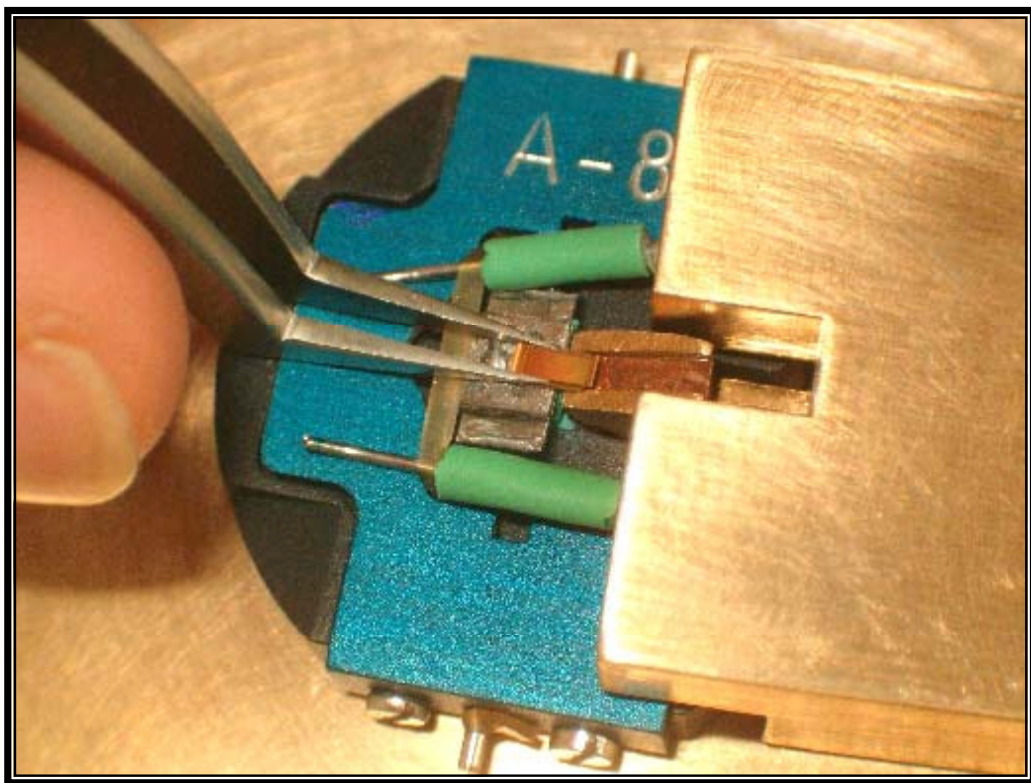

Fig. 2.20: Inserting the cantilever chip.
4. Using the tweezers, slide a cantilever chip into the appropriate position as shown in Figure 2.20.